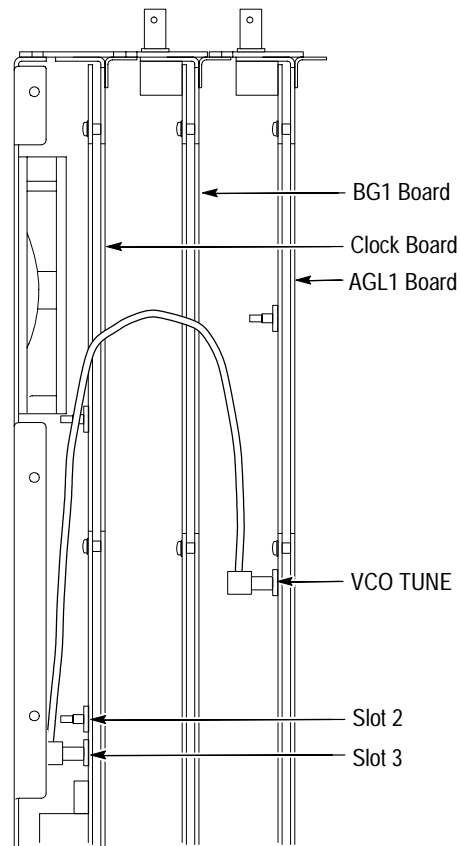

Figure C-6: Cable connections
- 10.** Connect the VCO tune cable from the AGL1 circuit board to the clock board as shown in Figure C-6. The connection to the clock board is dependent upon which slot the AGL1 is installed. If the module is in slot 2, connect the cable to **GL SLOT 2 IN**. If the module is in slot 3, connect to **GL SLOT 3 IN**.